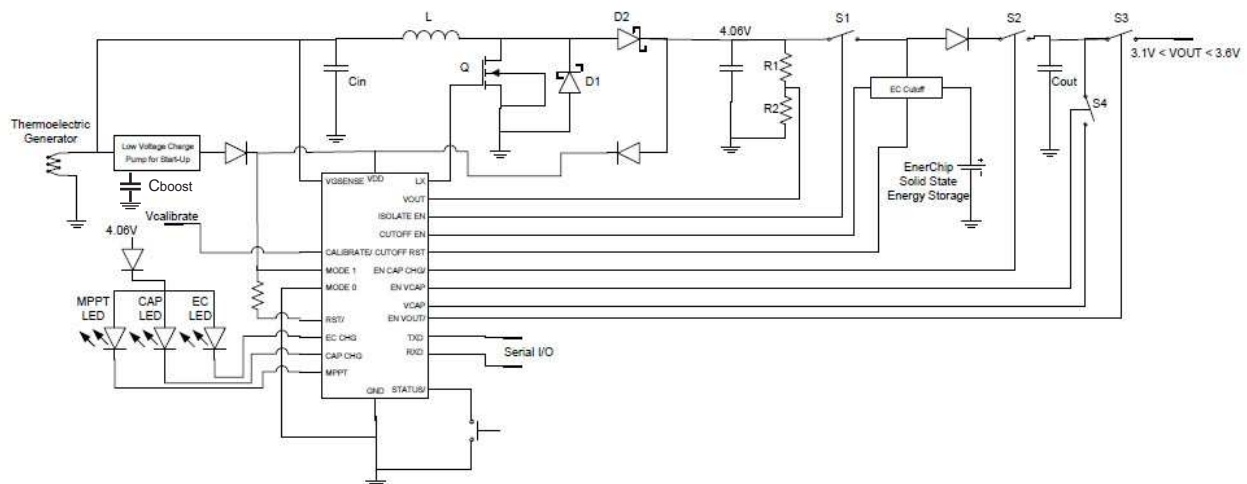

Figure 3. CBC915 Energy Processor Application Circuit
(1) This pin must be connected to a 1 kohm pull-up resistor or resistor with series LED to the positive supply. See Figure 3 and the section titled "Status Indicators" for more information.
CBC915 operation with a thermoelectric generator (TEG) transducer (as shown in Figure 3) starts with a temperature differential across the TEG. This temperature differential causes the TEG to generate a voltage. When that voltage reaches approximately 400mV, the input charge pump will start, boost the input voltage, and store the accumulated charge in capacitor  $C_{boost}$ . When the accumulated charge voltage reaches approximately 2.4V, the charge accumulated on  $C_{boost}$  will be released onto the CBC915 power rail, activating the CBC915. Upon activation, the CBC915 outputs are initialized to a known state and the input mode pins will be interrogated in order to recognize the transducer type. The CBC915 will then pulse-width modulate the LX pin and initiate operation of the boost converter. When the boost converter voltage rises above 2.4V, power to the input charge pump is removed to reduce quiescent current. The CBC915 then checks for voltage on the output capacitor ( $C_{out}$ ) by setting the EN VCAP pin high and reading the output capacitor voltage on VCAP pin. If the capacitor is charged, the CBC915 will leave the capacitor connected to the VOUT pin and EnerChips. If the capacitor has not been charged, the CBC915 will turn off the VOUT connection by setting EN VOUT/ pin high and isolate the capacitor from the EnerChips by setting EN CAP CHG/ pin high. The CBC915 will then check the boost converter voltage by monitoring the voltage at the VOUT pin and wait for the voltage to reach 4.06V at which time the CBC915 will enter the maximum peak power tracking state (MPPT) and pulse the MPPT/ status pin low and start adjusting the boost converter input impedance to match the output impedance of the TEG. This process can take several minutes. The MPPT state is only entered at initial power-on and values are subsequently stored. Note the MPPT state can be entered by five different events:
The CBC915 features a calibration function to remove errors caused by unit to unit variation in the voltage divider resistors (R1 and R2 of Figure 3) used to drive the ECFB input. The CALIBRATE/ pin has an internal pull up resistor and can be driven by an open drain/collector output or switch contact. To calibrate apply 4.06V to the V+ node. Then short the CALIBRATE/ pin to ground for approximately 100mS. The EC CHG LED/, MPPT LED/, and CAP CHG/ pins will simultaneously pulse low when the CBC915 has stored its calibration values.